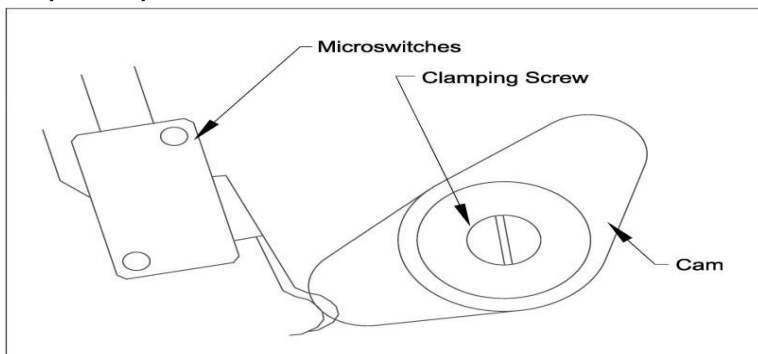

Figure 5: Limit switches
1. The limit switches may now be adjusted (see figure 5) Each of the Master and Slave operators has its own pair of cams, one to set the open position and one to set the closed position. Firstly, mark the position of each cam as a reference point before you loosen the screw holding the cams. Operate the LI-2B operator with the transmitter and note which cam controls opening and which operates the closing motion (the cam love activates a limit switch to turn off the motor).